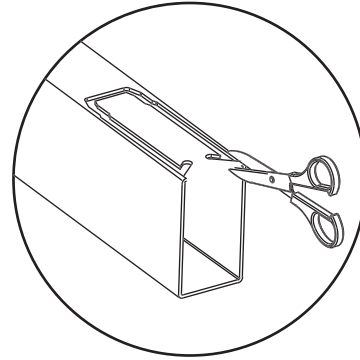

Figure 1
- 2.) Install the center portion into the gate uprights. Snip off excess material on the upright for decorative rail installation (*Figure 1*). For flat rails the space should be at the top of the upright.